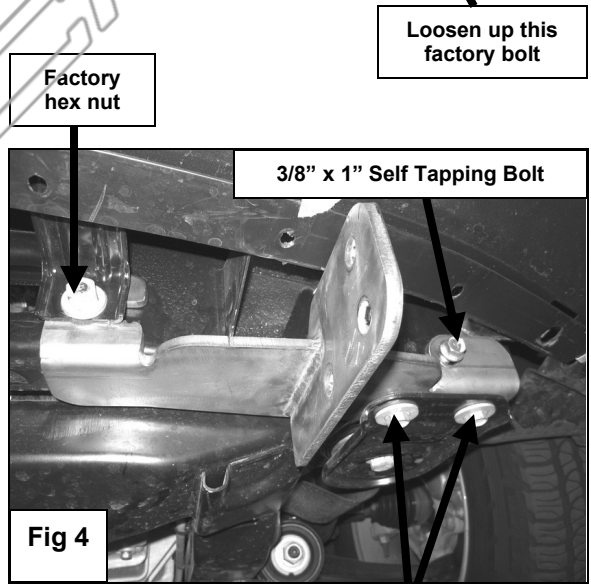

Fig 4
6. Once the Mounting Bracket is in place, use the included 3/8" x 1" Self Tapping Bolt to attach the outer front facing Mounting Location on the Bracket to the factory hole on the cross member bar. Re-install the factory hex nut and the two bolts removed from the motor mount bushing. Tighten all hardware at this time including the large bolt on the motor mount bushing and frame (**figure 4**). Tighten large motor mount bolt to 75 ft lbs.